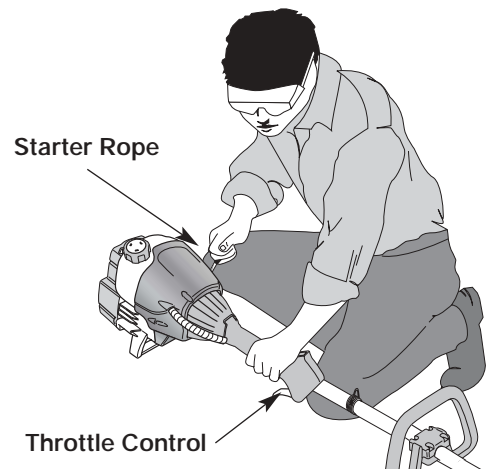

Figure 8
WARNING: Avoid accidental starting. Make sure you are in the starting position when pulling the starter rope. See Figure 8. To avoid serious injury, the operator and unit must be in a stable position while starting.
5. With the unit in the starting position, **DO NOT SQUEEZE THE THROTTLE CONTROL**. See Figure 8. Pull the starter rope 5 times briskly, making sure the EZ-Start™ lever is pushed to the left.
1. Release your hand from the throttle control. See Figure 8. Allow the engine to cool down by idling.